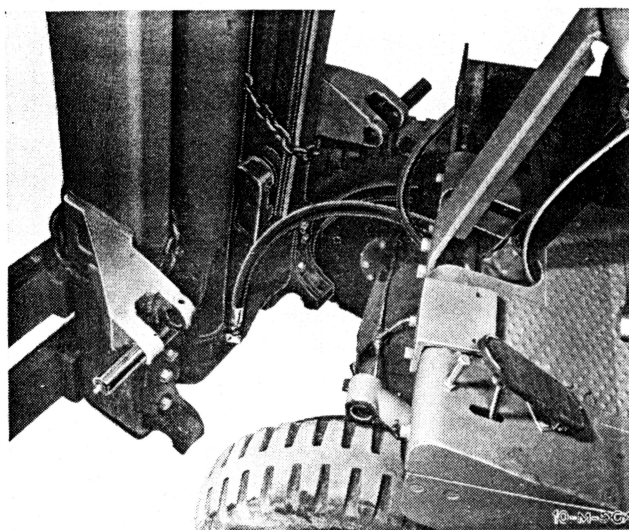

Fig. 114
**Upright Installation:** (See Fig. 114). Maneuver upright into position on frame upright support. Install pins connecting tilt cylinders to upright. Install bearings, bearing cups, and bolts to hold upright assembly to frame upright support. Remove chain hoist and connect hydraulic lines. Install lift finger on finger bars.